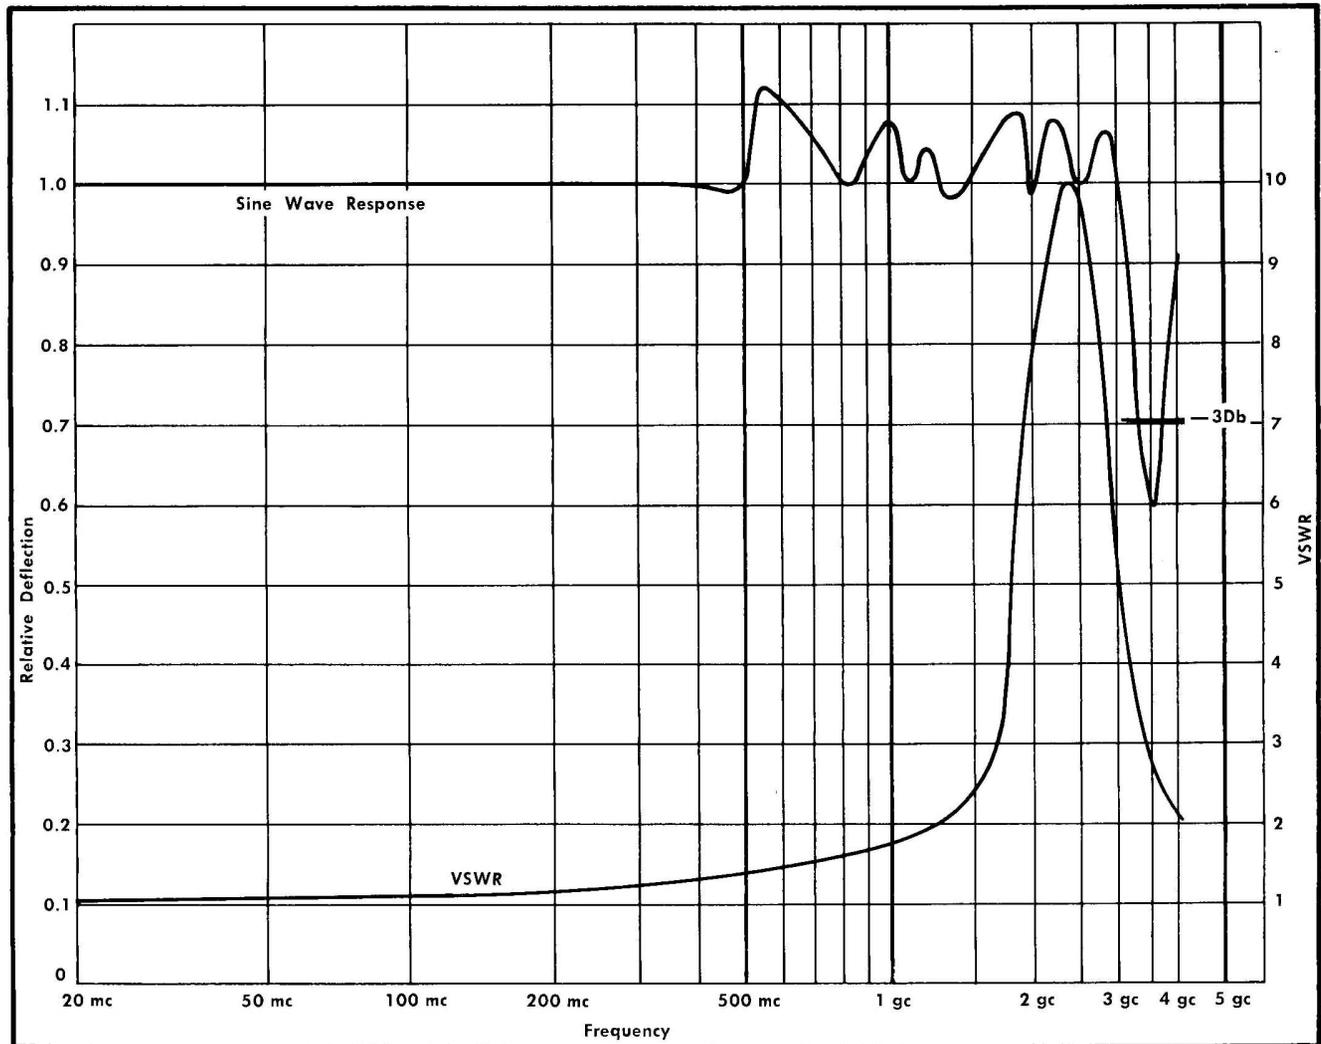
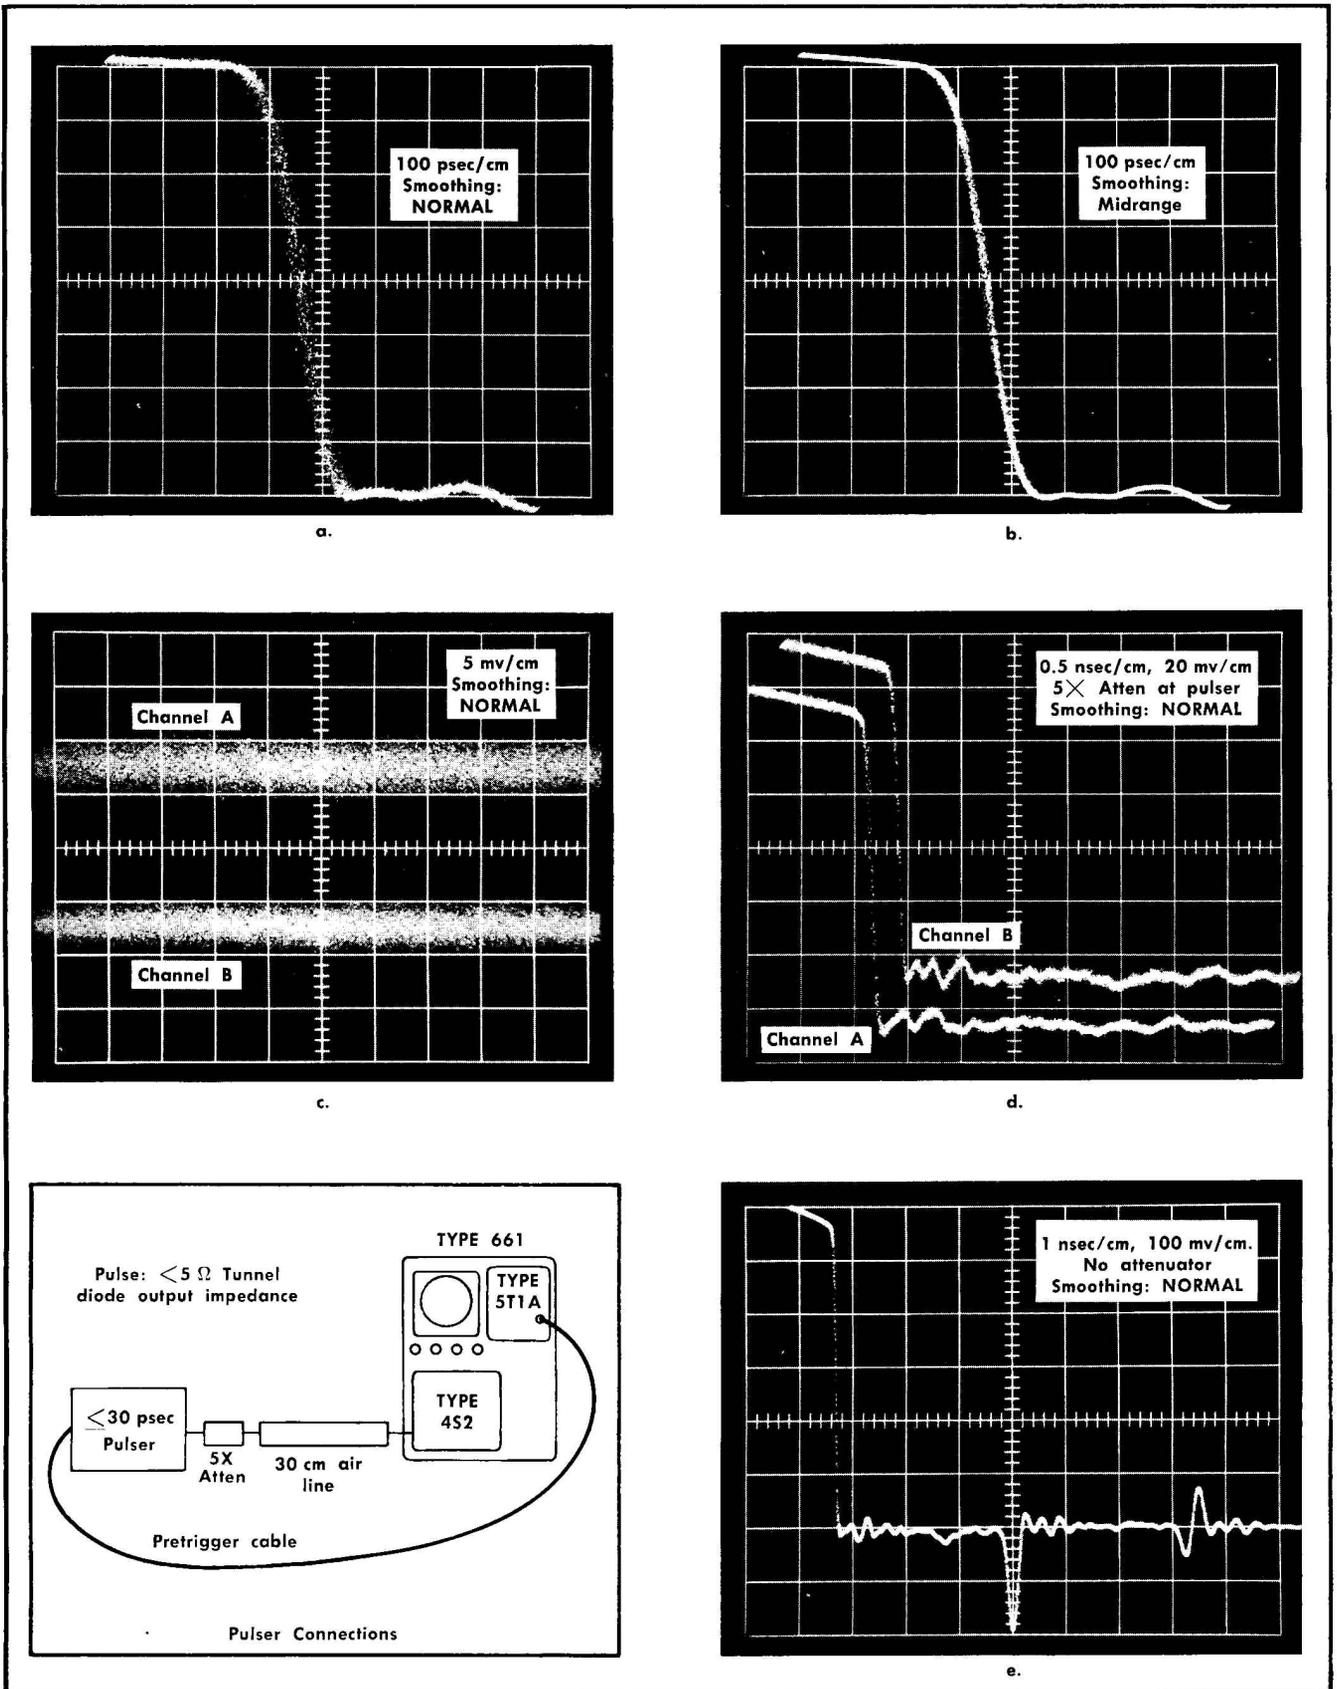

Fig. 1-1. Typical Type 452 VSWR and relative amplitude response to sine waves, S/N 301 up.
Fig. 1-2. Typical Type 452 risetime, noise and aberration characteristics. Pulser connections are shown.
50 ohms  $\pm 1\%$  at dc. Fig. 1-1 shows input VSWR up to 4 gc. Passive and cathode follower probes are available for higher input impedance at reduced sensitivity.
0.1 nsec or less, 10% to 90%. Typical risetime and transient response is shown in Fig. 1-2. (Frequency response shown in Fig. 1-1.) Aberrations during the first 4 to 5 nsec after the fast transition are due to the Type 4S2 input circuit, not the pulser. The transient aberrations are related to the frequency response curve of Fig. 1-1.